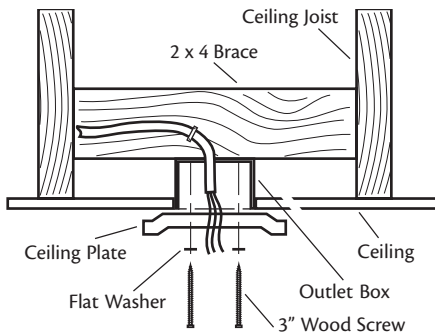

Figure 10 - Installing the ceiling plate
- Align the slotted holes (refer to Figure 10) in the ceiling plate with the pilot holes in the wood support structure. Note: The isolation pads should be flush against the ceiling.
- Place a flat washer on each of the two 3" screws and pass the screws through the slotted holes in the ceiling plate as shown in Figure 10.